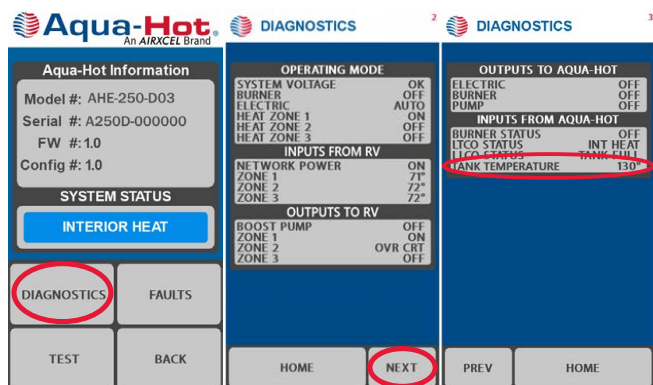

Figure 57
- Verify the tank temperature on the screen, on the DIAG screen (180°F). See Figure 57. If the tank is not to temperature, check the element for 11.2-13 amps. If there is less than 11 ohms of resistance, replace the element.